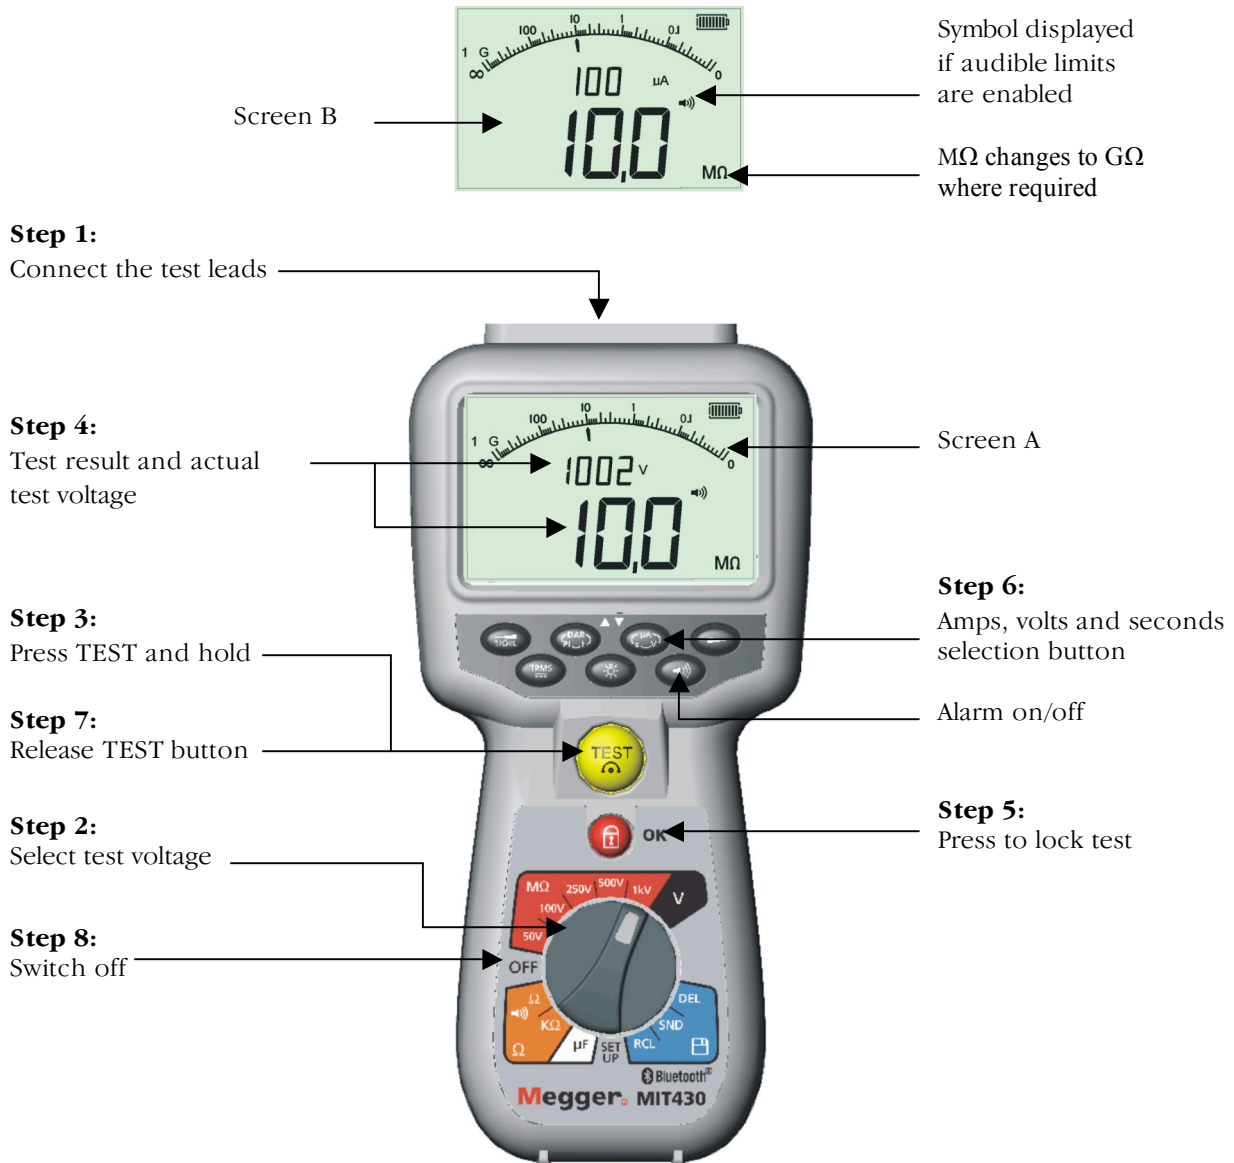

Figure 6 Standard mode insulation test
(Refer to Figure 6)
- The insulation resistance value, in both analogue and digital form is displayed together with the actual test voltage displayed on the secondary display (see Screen A of figure 6).